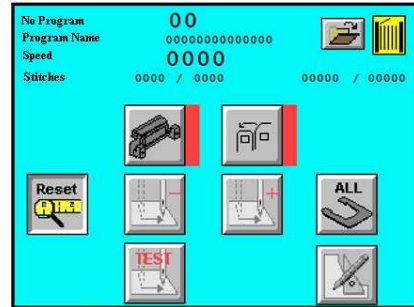

Fig. 7
11.1.2 Deactivate the “AUTOMATIC” button , press the pedal until the screen as fig. 7 appears.